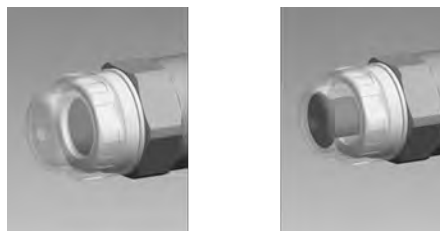

Fig. 11: Visual diaphragm rupture sensor, triggered and untriggered
With the **visual** diaphragm rupture sensor, the lowered red cylinder (6) springs forward beneath the transparent cover (7) so that it then becomes clearly visible Fig. 11.